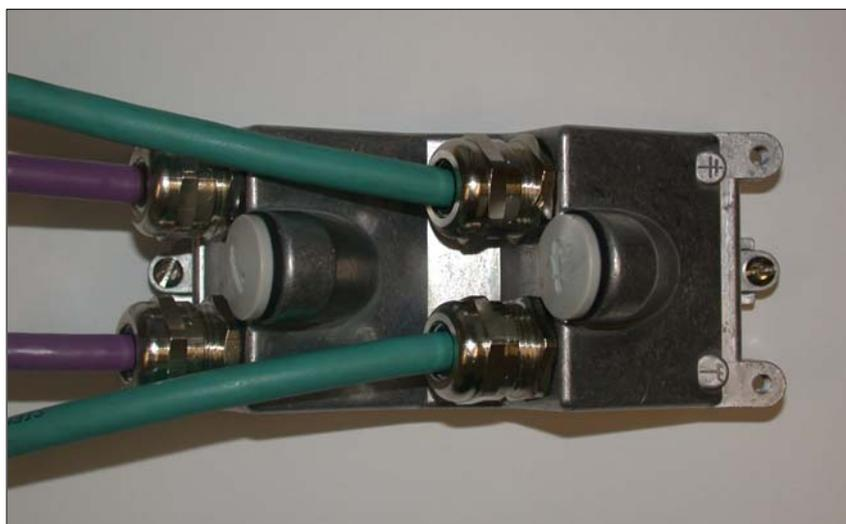

Fig. 2-26 Connection cover with the cables inserted: View from the top
- Connection cover from the top —> refer to Fig. 2-26